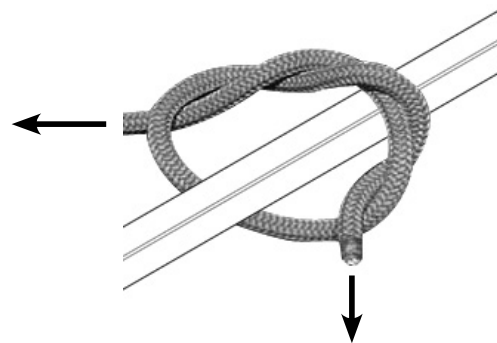

Figure 9
13. a. Tie one end of the provided 9' rope to the link welded onto the stabilizer bar, just in front of the tree hugger. Be sure your double knots are secure. **SEE FIGURE 9.**
b. Tie one end of each of the provided 15' ropes to the square tubes of tree blade frame, just in front of the tree blades. Be sure your double knots are secure. **SEE FIGURE 9.**